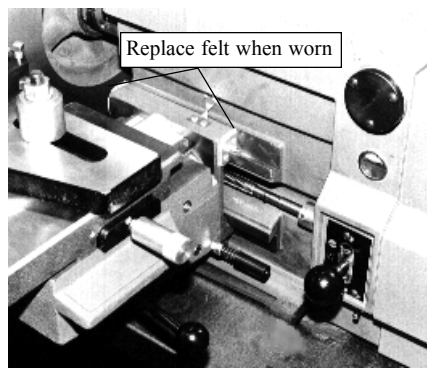

Figure 56
12. Check gib wiper on carriage to make sure that chips are being removed from ways as carriage moves back to prevent any undue wear on the surface of the ways. Replace the felt wipers, if worn. **See Figure 56.**